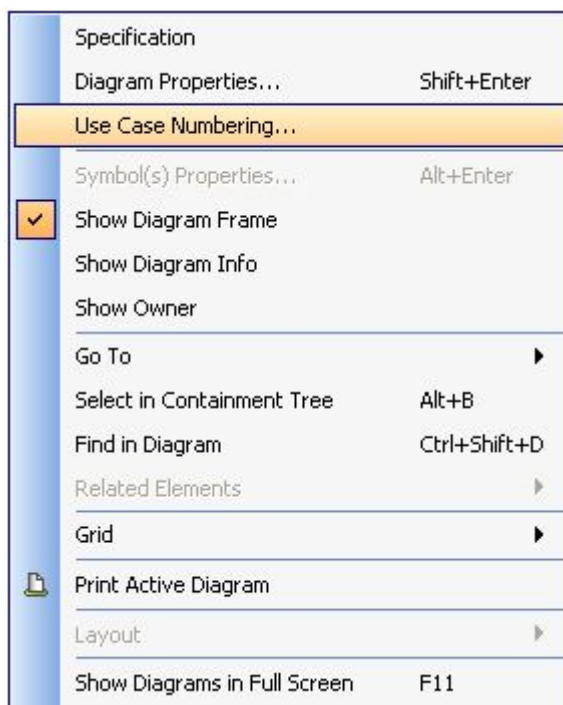

Figure 195 -- Use Case Diagram Shortcut Menu: Numbering
1. Select **Use Case Numbering...** on the diagram shortcut menu (Figure 195). A **Question** dialog will open, indicating that this feature requires **UseCase Description Profile**, and ask if you would like to use it.